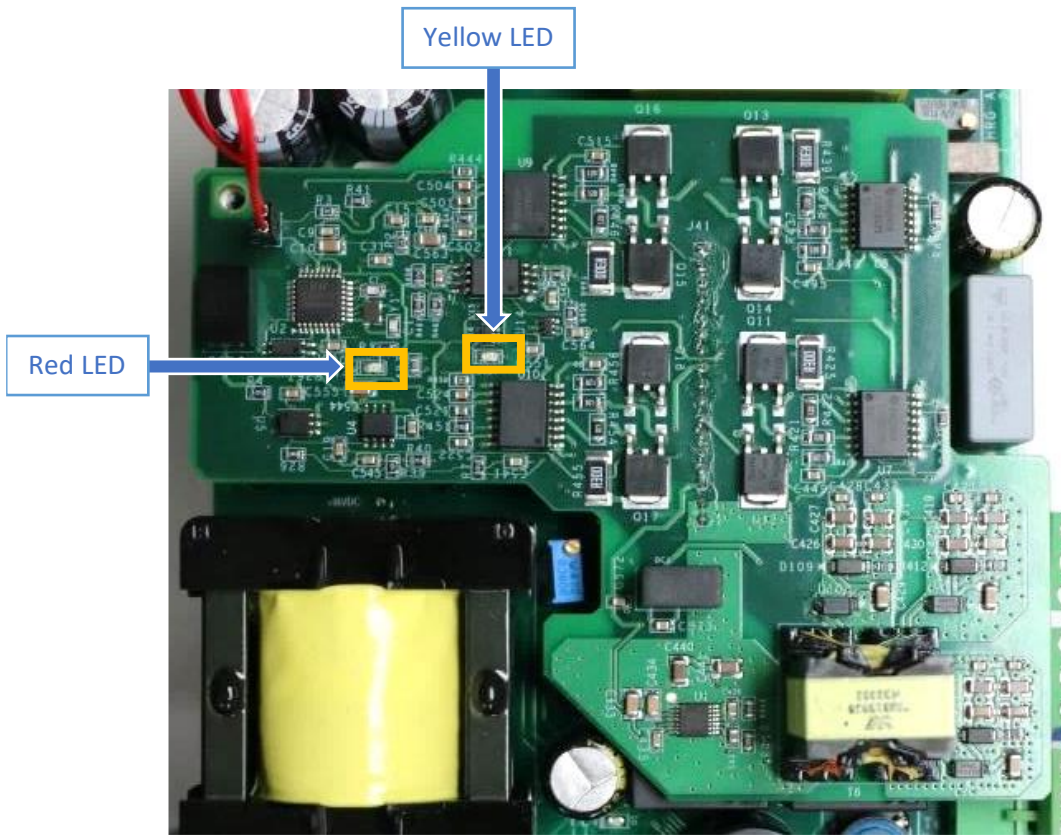

Figure 4: SR-3089A Board
- **Yellow LED** – turns on by IGBT driver in case of output short circuit, See Figure 4.